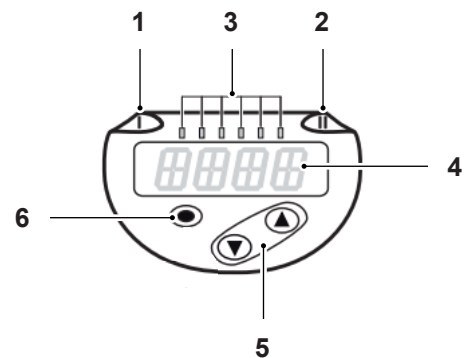

Fig. 6
1. Press the circle button (#6 on Fig.6). The display will now say "INI"
4. Hold the down button (left button of the two buttons, #5 on Fig.6) and the display will start to cycle the different modes. Release the down button when the display says "LIQU"
3. Press the down button (left button of the two buttons, #5 on Fig.6) and keep pressing it until the display says "diA"